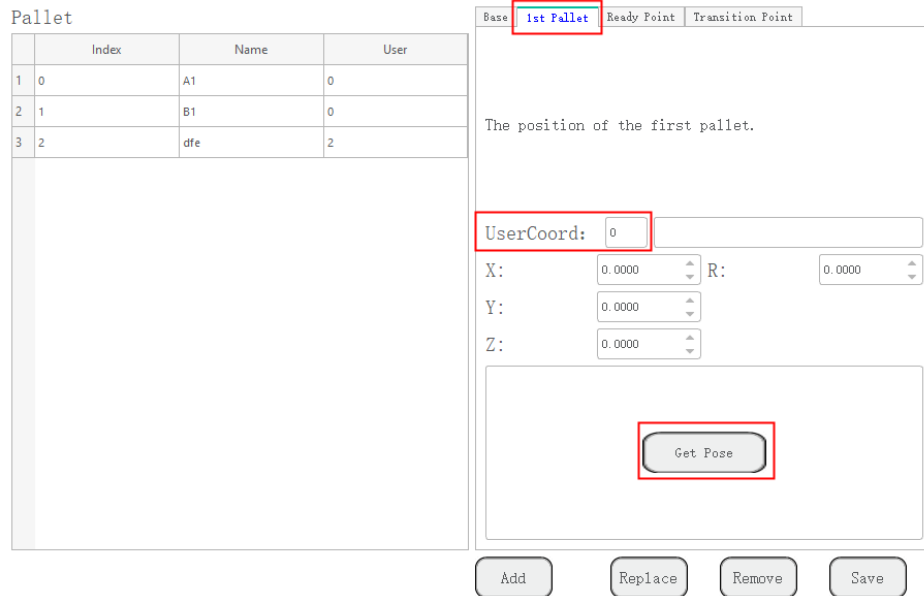

Figure 5.27 Teach the first stack position
**Step 3** Jog the robot to the first stack position and click **Get Pose** on the **1st Pallet** tab, as shown in Figure 5.27.